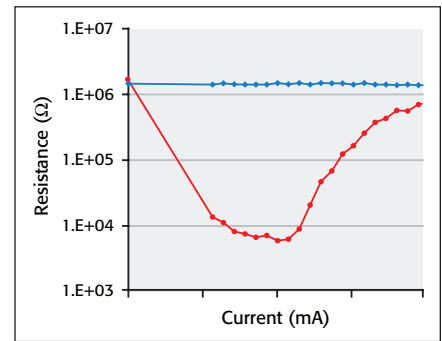

Figure 2. RI curve in red.
- **Resistance-current (RI) curves** – The RI curve (*Figure 2*) is one of the most common parameters collected during PCM characterization. A pulse sequence (*Figure 3*) is sent through a DUT. The first one, a RESET pulse, sets the resistance of the
DUT to the high value. It is followed by a DC-read or MEASURE pulse that's usually 0.5V or lower in order to avoid affecting the state of the DUT. This is followed by a SET pulse and another MEASURE pulse. The entire sequence is repeated multiple times, with the amplitude of the SET pulse slowly increased to the value of the RESET pulse. In the RI curve in *Figure 2*, note the plotted values of the measured resistances after the SET or RESET pulse. These values are plotted against current in the SET pulse. RESET values slightly exceed 1M Ω ; SET resistance values range from one mega-ohm to several kilo-ohms, depending on the value of the SET current.